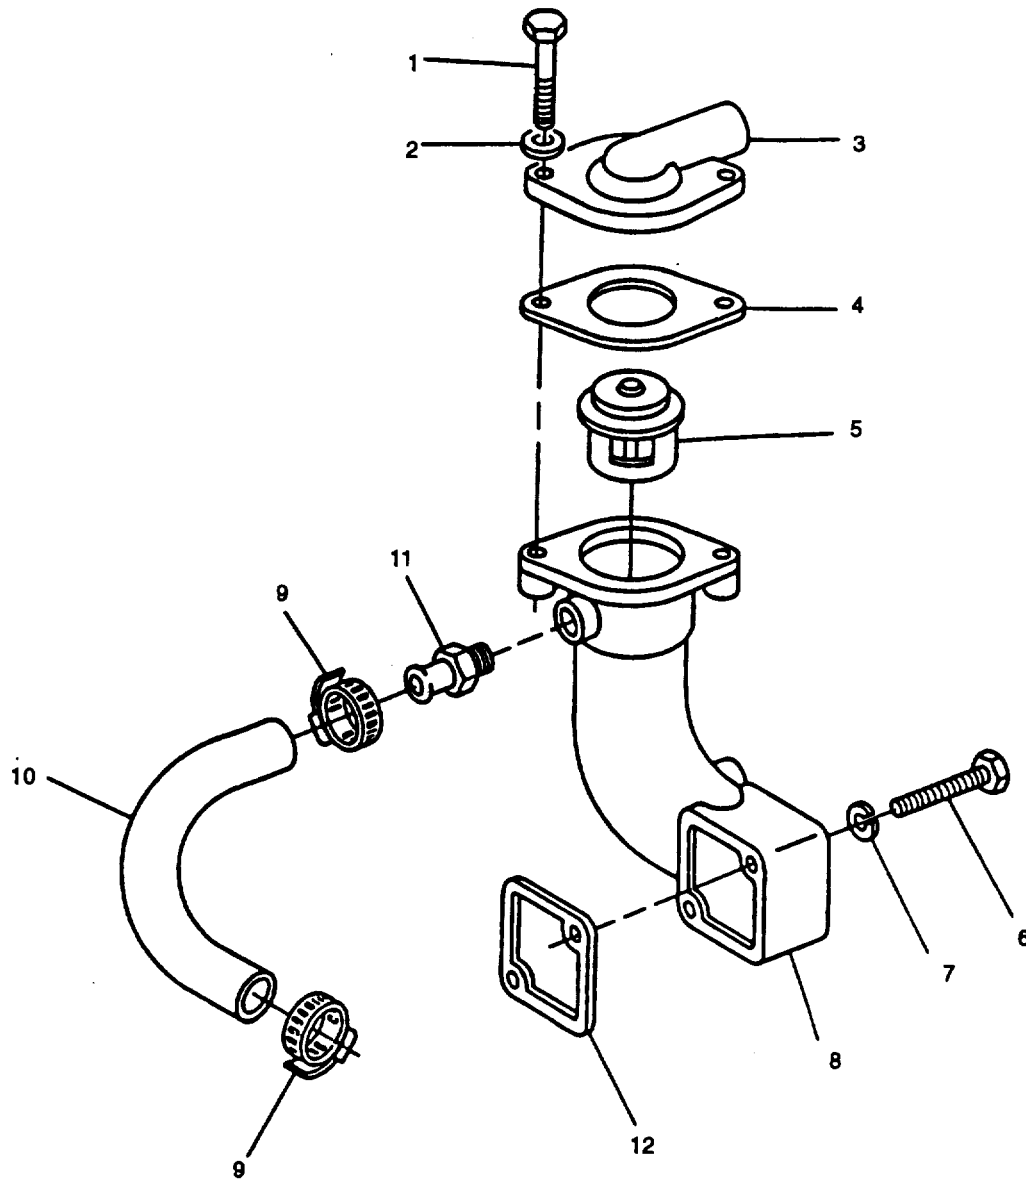

FIGURE 3-2. Thermostat and Housing
- b. Loosen hose clamp and remove outlet hose from cover (3, FIGURE 3-2).
- c. Remove two capscrews (1), and lockwashers (2) securing cover (3) to housing (8); remove cover (3) and gasket (4). Discard gasket (4) and lockwashers (2).
- d. Lift thermostat (5) from housing (8).
- e. Loosen two hose clamps (9) and remove by-pass hose (10) from housing adapter (11) and water pump housing.
- b. Install adapter (11, FIGURE 3-2) in housing (8).
- c. Position housing (8) and new gasket (12) on engine and secure with two capscrews (6) and new lockwashers (7). Tighten screws to 35 ft-lbs (47 Nm).